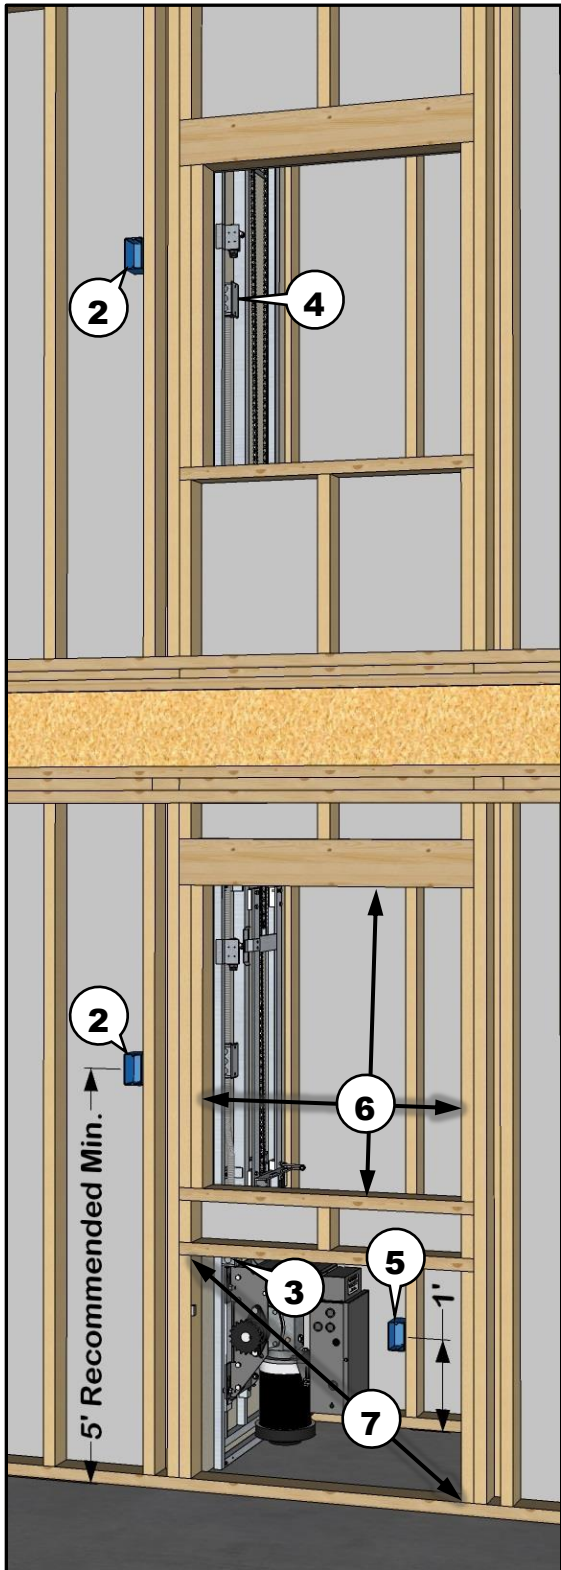

Figure 23
- 2 Place push button boxes per owner's instruction, making sure there is enough wire to reach the box. (see Figure 23)
- 3 Rough-in wire for push buttons from junction box to bottom floor push button box. (see Figure 23)
- 4 Rough-in wire for push buttons from top floor junction box to top floor push button box. (see Figure 23)
- 5 Install power supply junction box 12 inches (0.3 m) above floor on wall adjacent to mounting wall. (see Figure 23) (see Page 5, # 11 for voltage requirements)
- 7 Removable access panel or door for servicing motor, brake, clutch, or car adjustment. (see Figure 23)